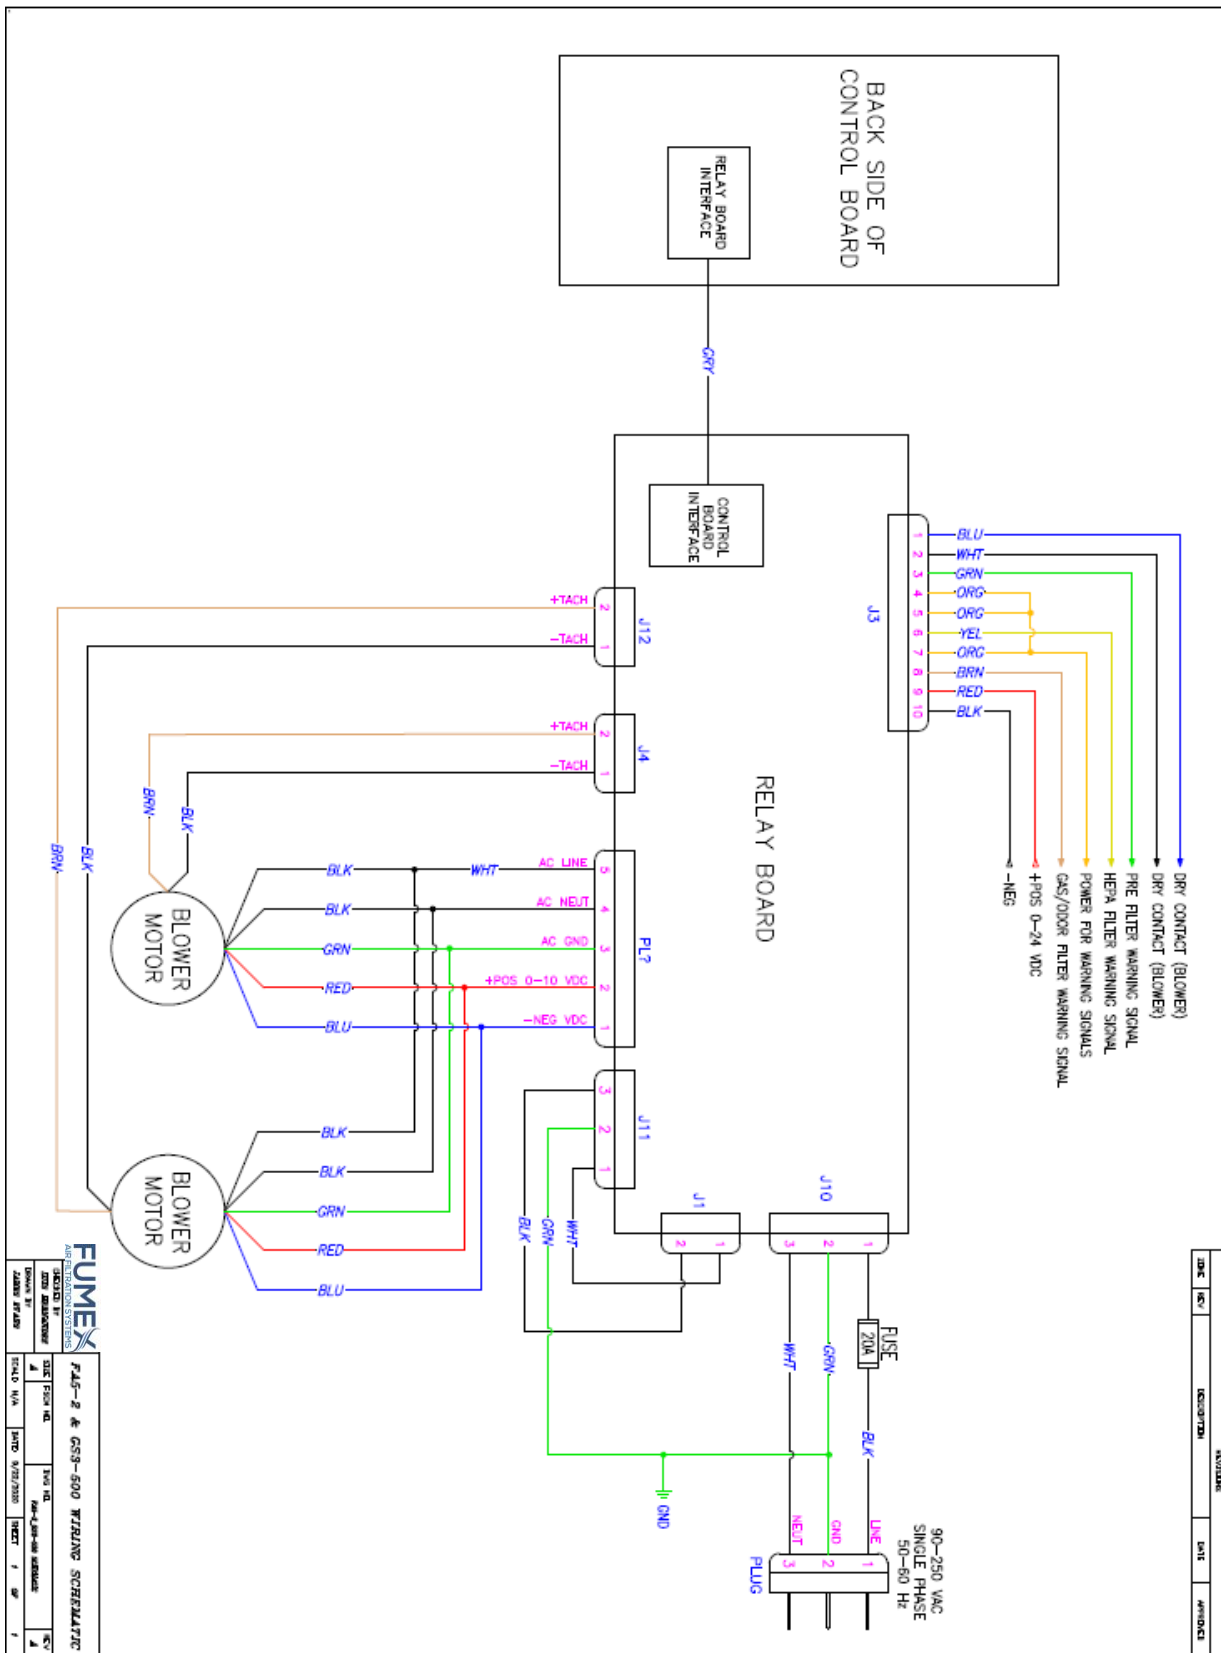

Figure 1
The FA5-2 can be supplied with an optional interface package providing remote start/stop and filter monitoring capabilities (Part # FA227). Please see instructions below for Relay Activation/De-Activation procedures and refer to the drawing in Figure 1 for remote connections.
7. Remove the flash drive and apply 0-24 VDC to the start relay according to the wiring diagram in Figure 1 to start the unit.